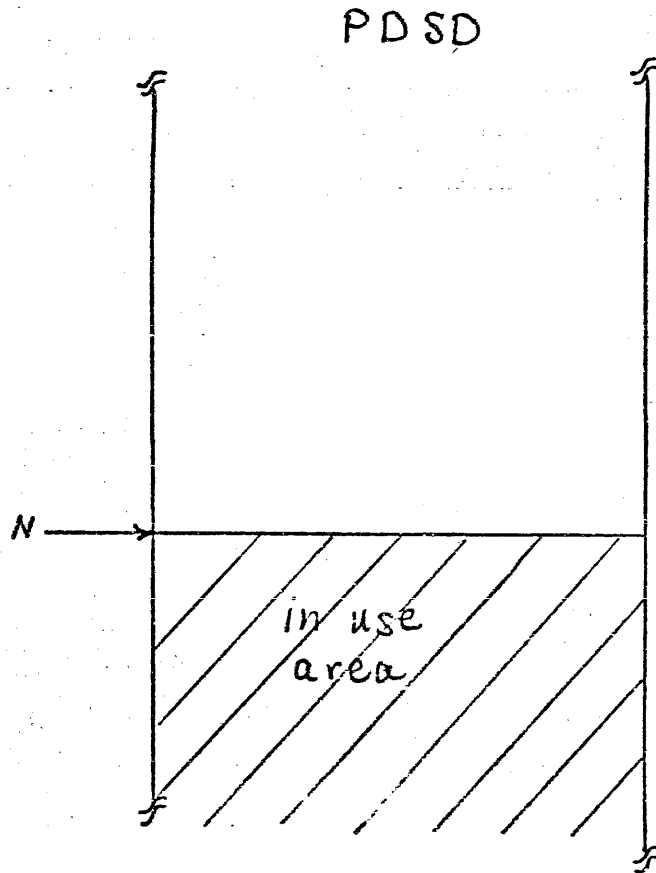

FIGURE 4-2. The Process Dynamic Segment Dictionary.
In order to pass parameters by reference (address) in a secure fashion, the PDSO is used. The PDSO operates in a stack like manner; information is entered as a result of the Push-name (STUFF) and Procedure-call (ENTER) operators and is removed by the EXIT operator. The PDSO is word oriented and data is always on word (modulo 10 digit) boundaries. The S-Machine maintains a Name (N) register to the first free word in the PDSO. Figure 4-2 illustrates the PDSO.